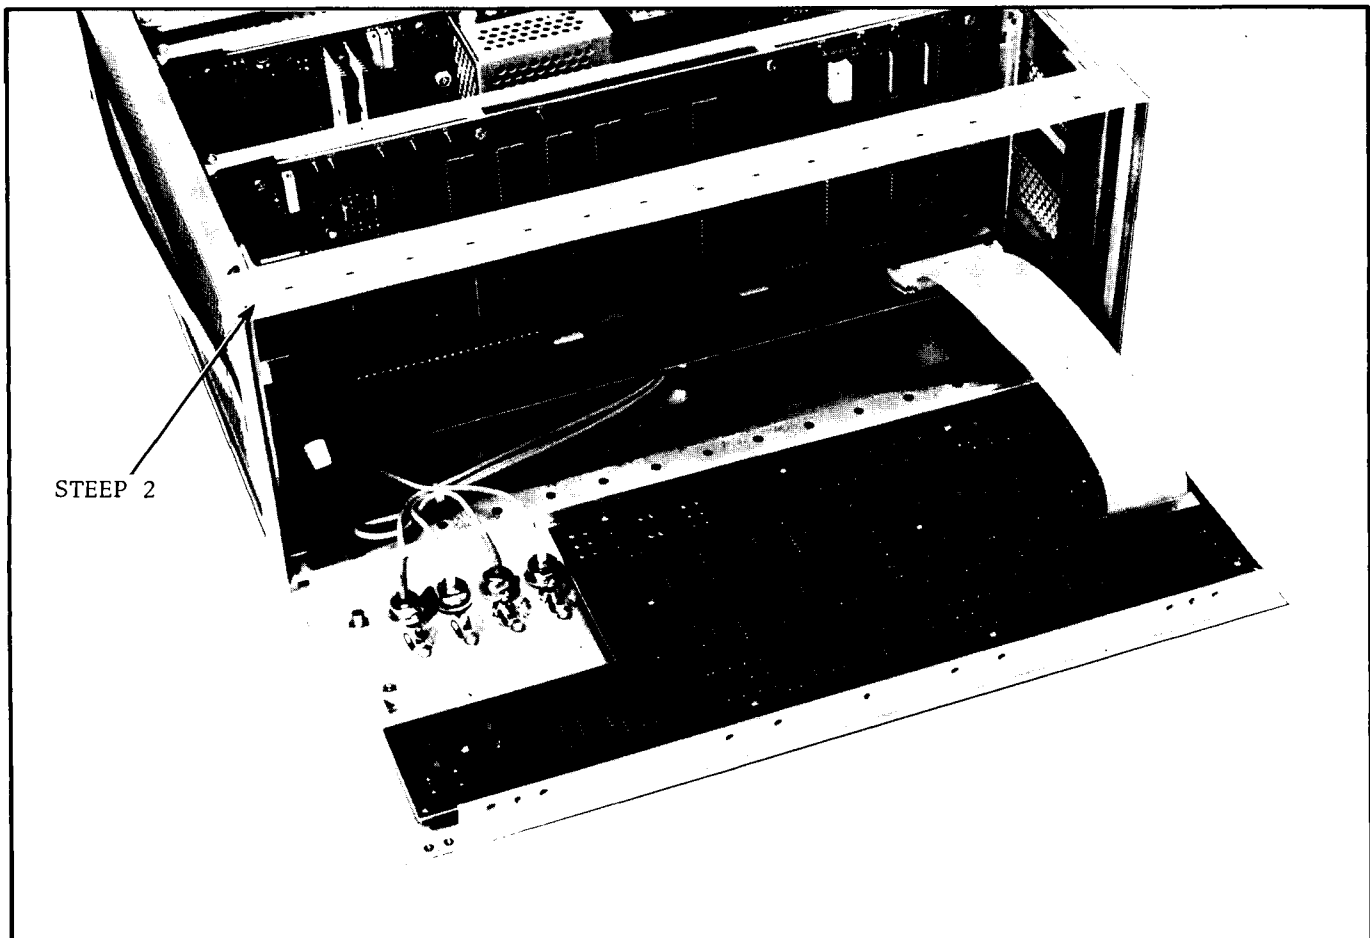

Figure 8-35. A5 Display Board Disassembly.
- (1) Remove the top cover.
- (2) Carefully remove the top trim strip from the front frame (use a screwdriver to lift out the trim).
- (3) Remove the three screws from the top of the front frame.
- (4) Stand the instrument on its side.
- (5) Remove the three screws from the bottom of the front frame.
- (6) Firmly press the front panel assembly forward from inside the instrument until it is clear of the frame. Do not allow the cables connected between the front panel and the mother board to become taut. See Figure 8-35.
- (7) Remove the eleven screws securing the A5 board to the front panel assembly.